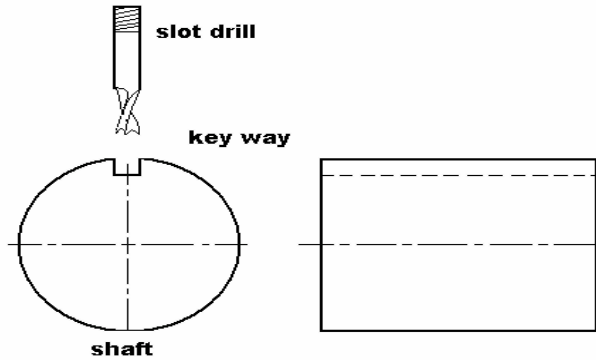

FIGURE 3
- 4.4 FIGURE 3 below shows a 10 mm slot drill that must machine a slot into a 50 mm diameter shaft. Briefly explain how you would set-up and align the slot drill centrally with the shaft.